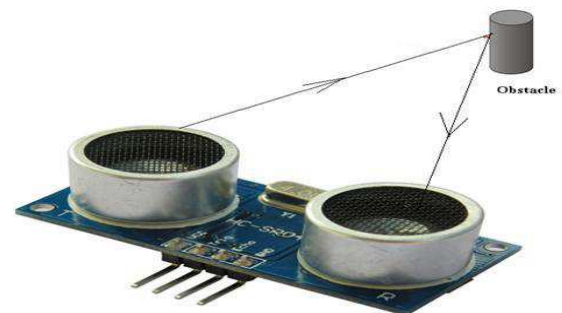

Fig. 4. Ultrasonic sensors
d. **Ultrasonic sensors** are based on the fact that obstacles detection function works like a sonar equipped on a submarine, which act through a continuous momentum to eliminate accidents and for removing computer errors (fig. 4).